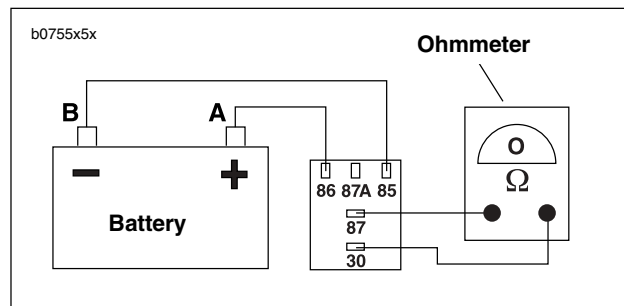

Figure 7-17. Starter Relay Test
3. See Figure 7-17. Obtain a 12 volt battery and a continuity tester or ohmmeter.